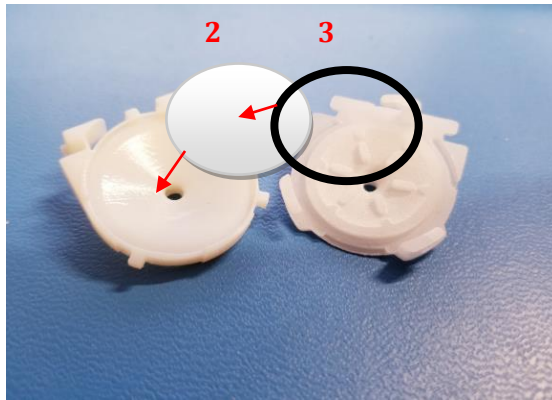

Figure 13. Protection Filter Only:
3. Use tweezers to place a 25 mm 5µm protection filter disc in the filter Cassette, with the Teflon support matrix down. See **Figure 13**. This protection filter will keep the down-stream channels of the DustCount 8899 clean. If this filter eventually becomes clogged, the DustCount 8899 will give a low-flow alarm (4 ALM), and the filter will need to be replaced.